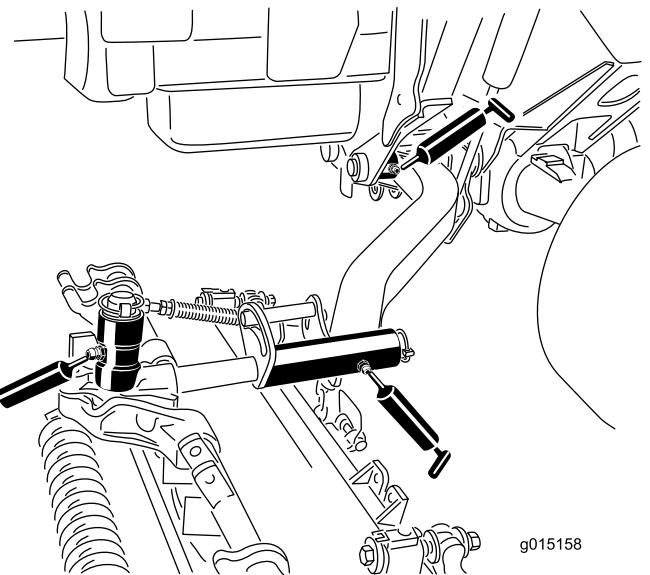

Figure 68
- Cutting unit carrier frame (2 per cutting unit) (Figure 68)
- Cutting unit lift arm pivot (1 per cutting unit) (Figure 68)
- Lift arm pivot bushings (1 per cutting unit) (Figure 68)